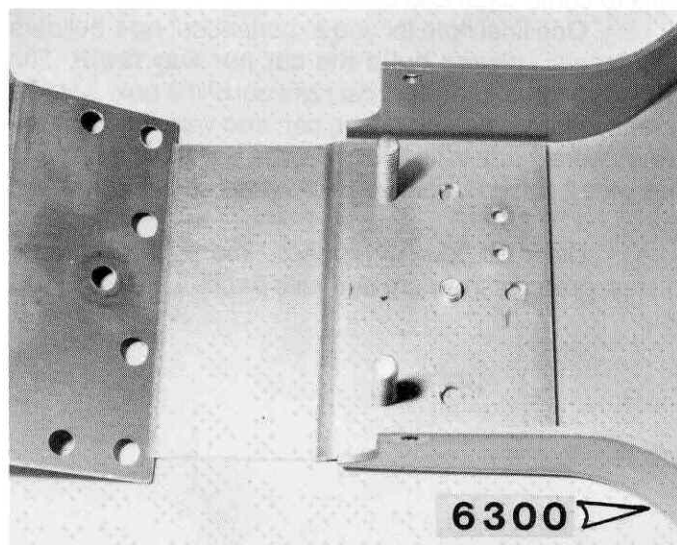

Fig. 2
□ **Fig. 2** Take the gold aluminum chassis #6300 and install the nose piece as shown, with the #2 Phillips screwdriver. Note that all the chassis screws are aluminum and can be easily damaged by a worn screwdriver. Be sure yours is in good condition.